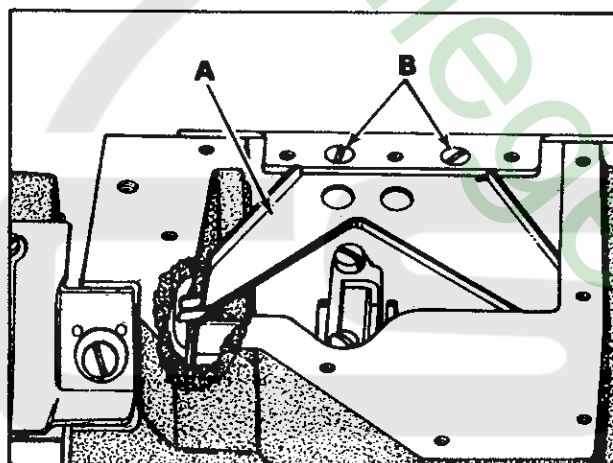

Fig. 18
The oil drip plate (A, Fig. 18) located in the oil reservoir should be positioned with its tip in the recessed cut out in the bed casting, as far to the left as possible without touching. It has elongated mounting holes and can be adjusted by loosening (2) screws (B) in top of the oil reservoir back cover to position as required, retighten screws.